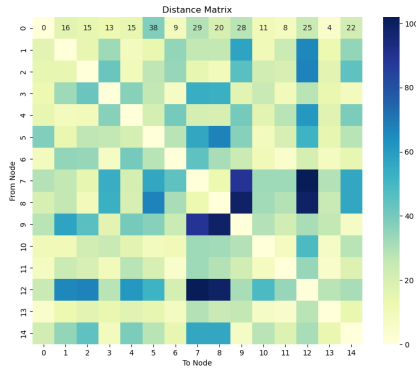

Figure 3: Heatmap of Distance Matrix
- distance matrix: Distance matrix between points.As figure 3.